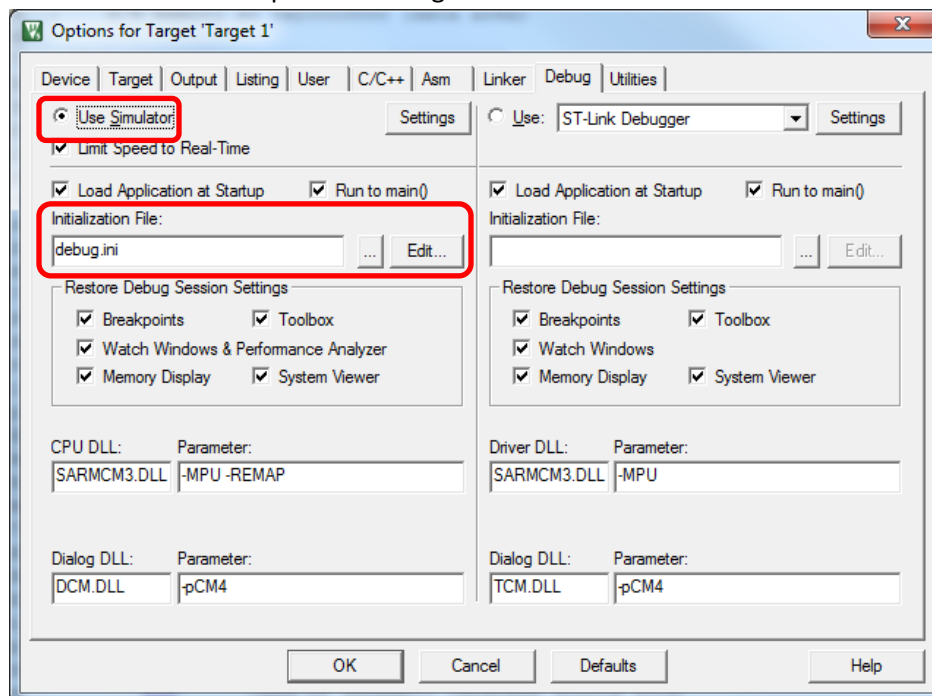

Figure 5. Target Options Debug tab. “Use Simulator” selected and debug initialization file specified.
- Select the **Debug** tab (Figure 5) and check the **Use Simulator** button.
The following is a sample initialization file (*debug.ini* in Figures 5 and 6)